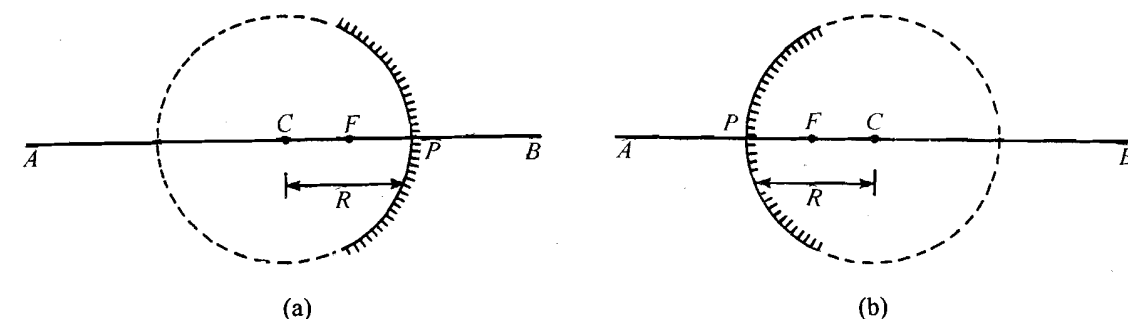

Fig.4.6: a) A concave mirror; and b) a convex mirror
A spherical mirror is obtained by cutting a piece from a hollow glass sphere and coating one of its surfaces with a shiny metal. In the plane of the paper, we draw them as part of a circle. There are two types of spherical mirrors, namely the **concave mirror** and the **convex mirror**, as shown in Fig.4.6. The characteristics of the image formed by these mirrors are quite different from those of a plane mirror. To study image formation by spherical mirrors, you must recapitulate some of the important terms and definitions associated with them. Now we briefly explain them.
Again refer to Fig.4.6. For both types of mirrors, C is the **centre of curvature**; P , centre of the mirror, is the **pole**; and CP , denoted by R , is the **radius of curvature**. The line AB passing through the centre of curvature (C) and the